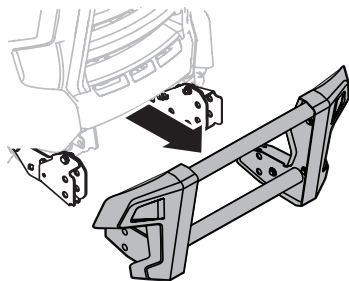

Figure 58
- Retirez le grillage de protection. Voir Figure 58.